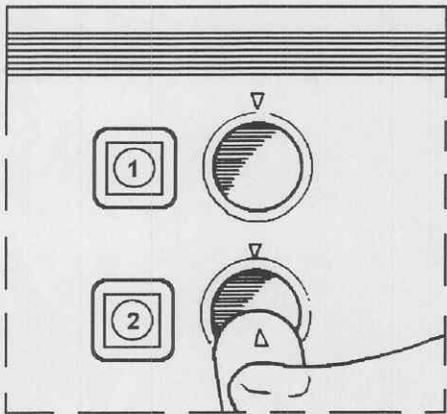

Figure 2-7. Handpiece connector alignment.
- a. Select either the 1 or 2 handpiece receptacle. Then, align the arrow on the handpiece connector with the arrow on the APS console. Refer to figure 2-7.